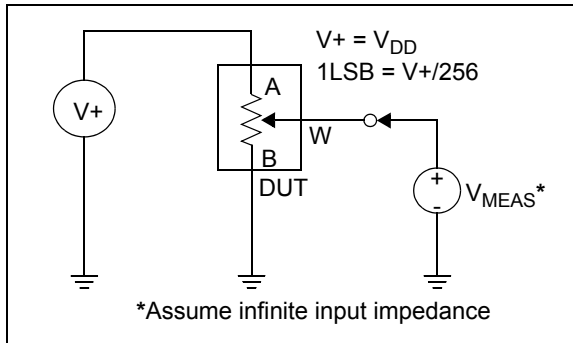

FIGURE 2-25: Potentiometer Divider Non-Linearity Error Test Circuit (DNL, INL).
- INL and DNL are measured at V_W with the device configured in the voltage divider or potentiometer mode. $V_A = V_{DD}$ and $V_B = 0V$. DNL specification limits of ± 1 LSB max are specified monotonic operating conditions. See Figure 2-25 for test circuit.
- Resistor terminals A,B and W have no restrictions on polarity with respect to each other. Full-scale and zero-scale error were measured using Figure 2-25.